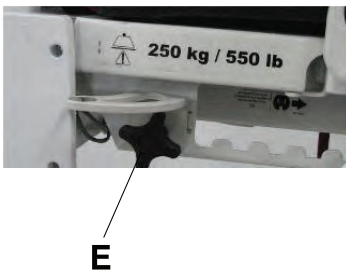

Figure 127: Installing the screw knob
2. Install the screw knob onto the bracket back (E) (Figure 127 on page 109).